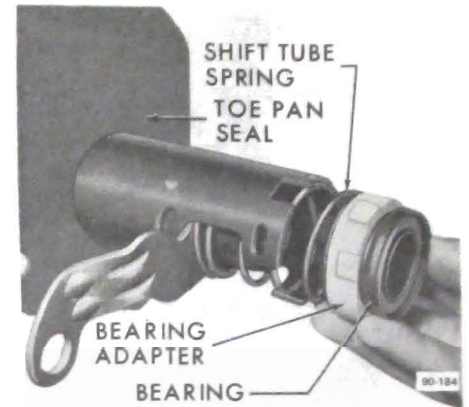

Figure 90-117 Removing Lower Steering Column Bearing
4. (Automatic Transmission) Remove bearing adapter retainer, bearing and adapter assembly and shift tube spring. (Bearing may be removed from adapter by a light pressout operation on the outer race of the bearing. See Figure 90-117.